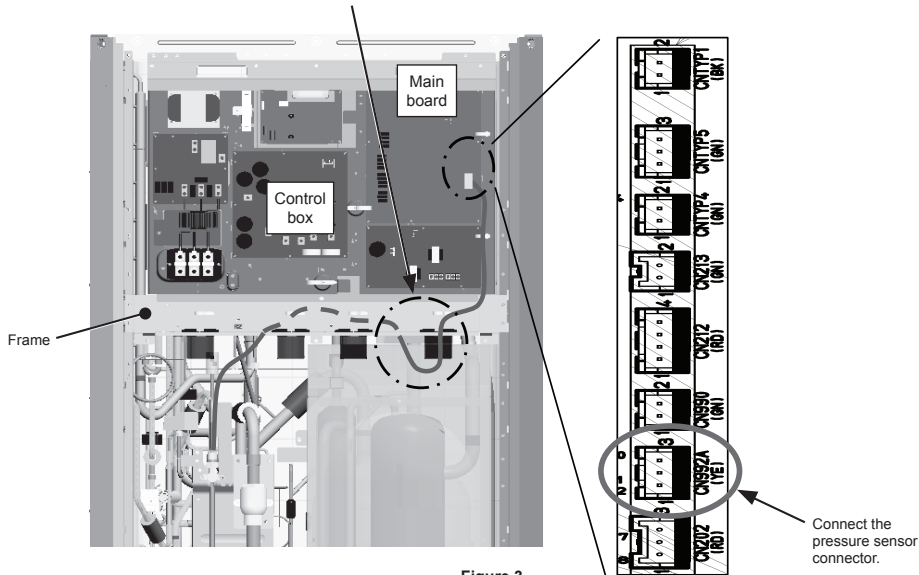

Figure 3
(3) Refer to Figure 3 for how to route the pressure sensor cable. Connect the pressure sensor connector to CN992 on the circuit board in the control box. Fix the cables in place with the cable strap behind the frame at the bottom of the control box, just as with the cables of the sensors on the unit.